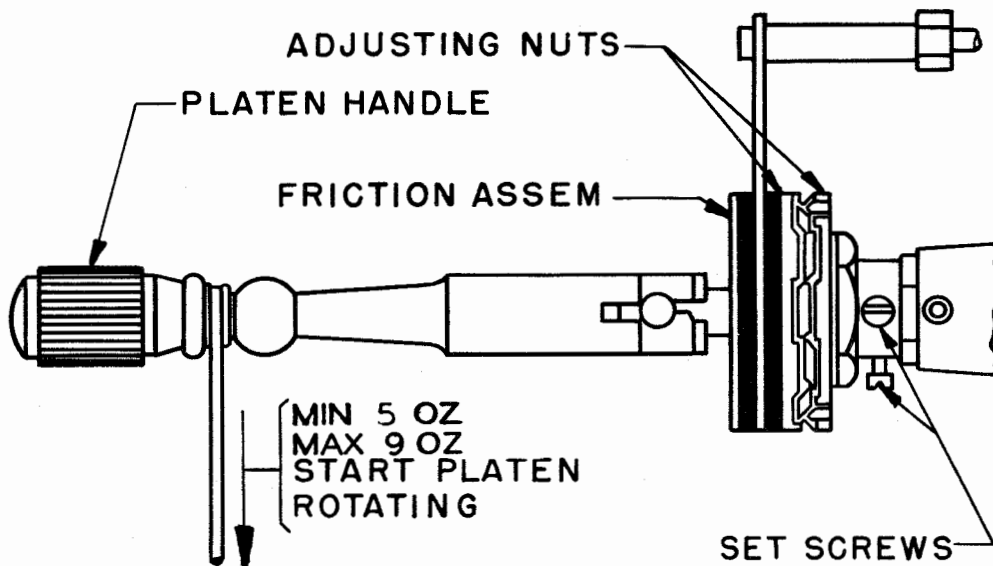

Figure 52
2.120 Platen-friction Assembly should require a pull of minimum 5 ounces, maximum 9 ounces to start the platen rotating when the pressure-roller-release shaft arm is in its extreme rear position, the line-feed detent-lever spring is unhooked, and the platen handle is placed vertically upward. See Figure 52.